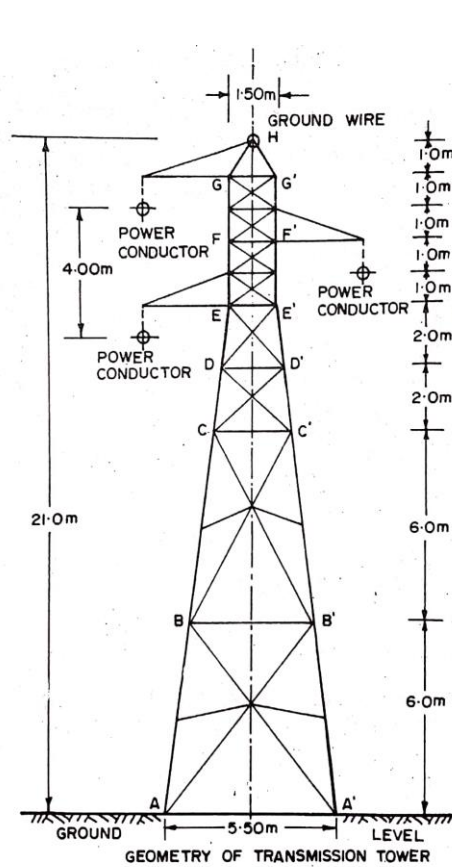

Figure1
9. Steel tower as shown in figure 1 is to be connected for a transmission line for a single circuit 3 phase 5 cycle per sec(cps) to transmit 50 MW at 0.75 power factor for 259 KW, determine the